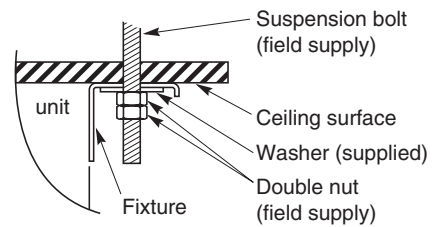

Fig. 1-90
- (6) Preparation for suspending the indoor unit. The suspension method varies depending on whether the unit is next to the ceiling or not. (Figs. 1-90 and 1-91)